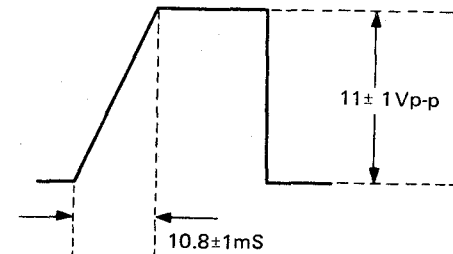

Figure 71.
2. Observe the output of TP-712 on oscilloscope (internal trigger), and check its values are as shown in Fig. 71.